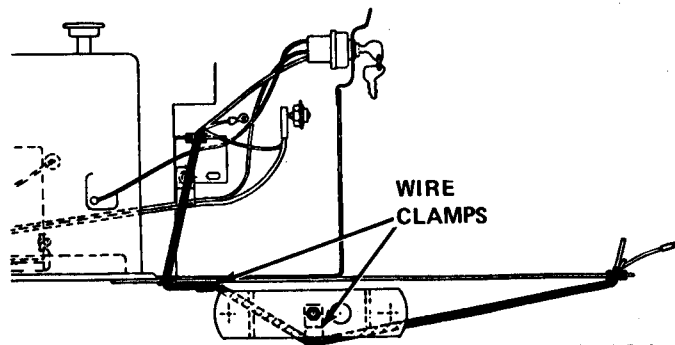

FIGURE 3
6. Check along the belts to be sure there is no interference between belts and wire clamps on the wiring harness. Orient the wire clamps as shown in Figure 3 for proper clearance.